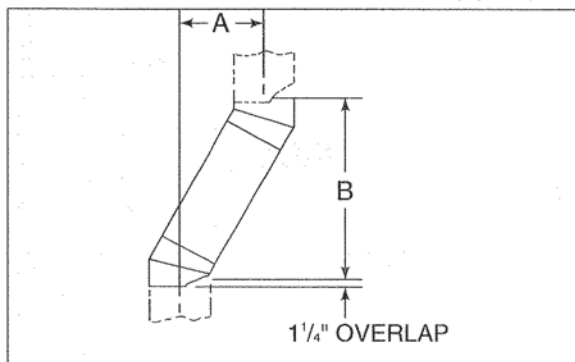

Figure 6
1. Measure how far the chimney needs to be shifted to enable it to avoid the overhead obstacle. See Figure 6 (page 12), dimension "A".
Example: Your "A" dimension from Figure 6 is 14½". Using Table 1, the dimension closest to but not less than 14½" is 14¾" using a 30° offset/return. It is then determined from the table that you would need 33⅝" (Dimension "B") between the offset and return. The chimney components that best fit your application are two SL412's.